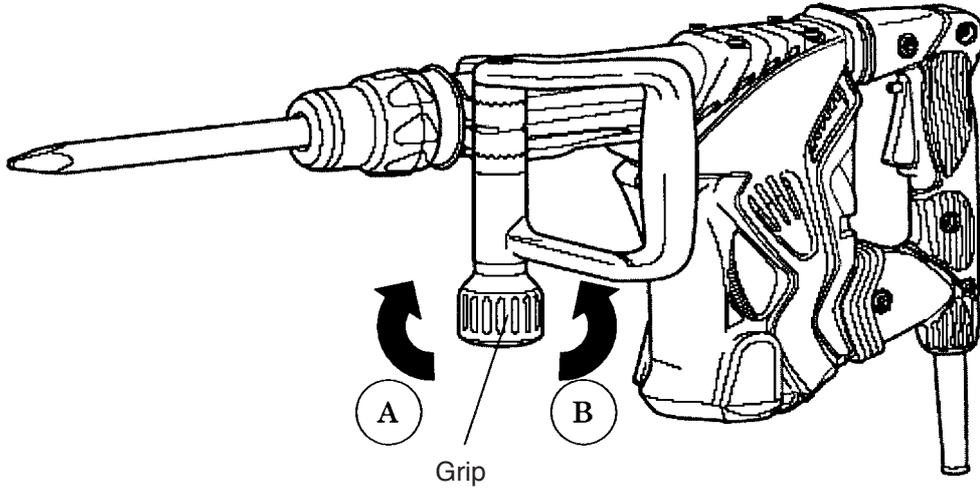

Fig. 11
The tool swivel angle can be easily changed in 12 steps. The tool swivel angle can be set freely to the desired position by pushing out grip (B) ahead in (A) direction and then turning grip (A) in (B) (Fig. 11).
The side handle can be adjusted by 360° rotation and also allows operation from front to rear. Loosen the handle by turning the grip in (A) direction and adjust the handle to a convenient position. Turn the grip in (B) direction to fix the side handle (Fig. 11).